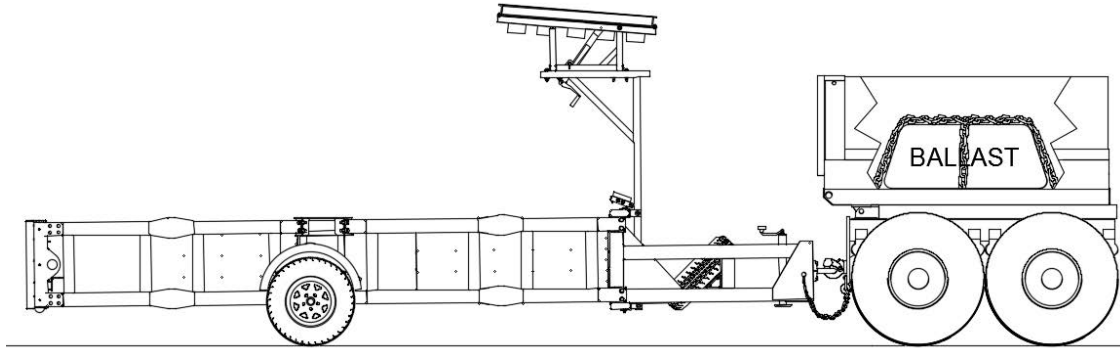

Figure 7
4. Ballast and other heavy objects **MUST BE ADEQUATELY ANCHORED** to the truck to prevent shifting during an impact. The force on the anchoring straps or chain could be 20 times the weight of the ballast (Figure 7).